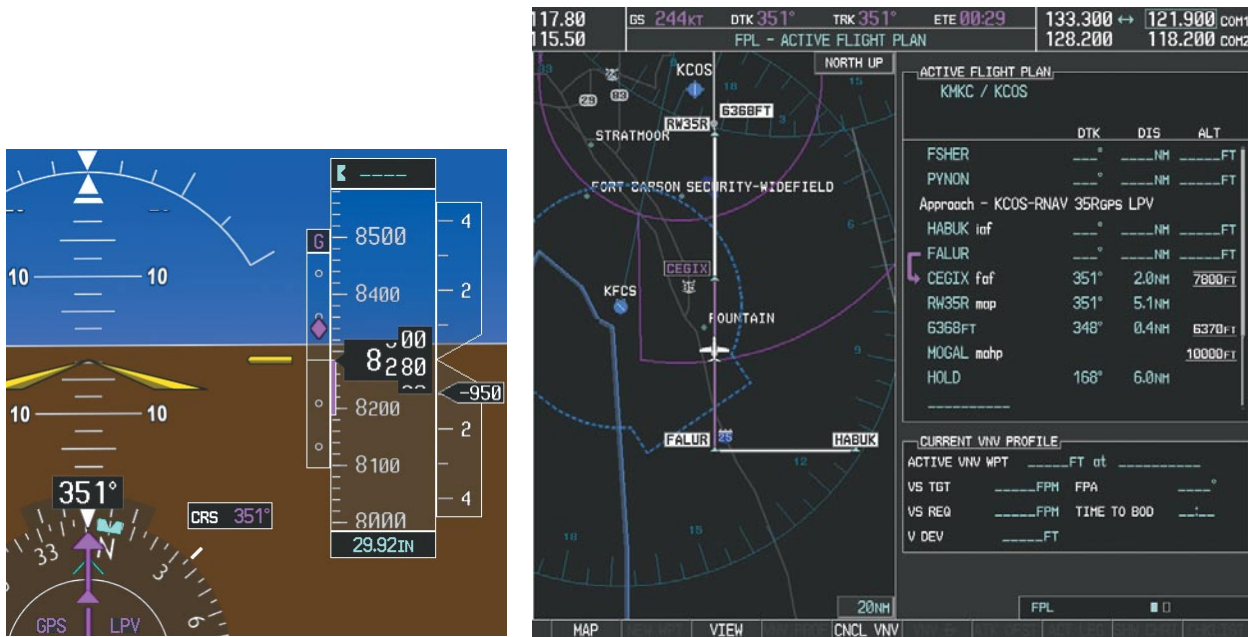

Figure 5-141 Descending to the FAF
- 23) After crossing FALUR the next waypoint is the FAF. The flight phase changes to LPV on the HSI indicating the current phase of flight is in Approach Mode and the approach type is LPV. CDI scaling changes accordingly and is used much like a localizer when flying an ILS approach. The RVSI is no longer displayed and the VDI changes to the Glidepath Indicator (as shown in Figure 5-141) when the final approach course becomes active.
The descent continues through the FAF (CEGIX) using the Glidepath Indicator, as one would use a glideslope indicator, to obtain an altitude "AT" 7,800 feet at the FAF. Note the altitude restriction lines over and under (At) the altitude in the 'ALT' field in Figure 5-141.